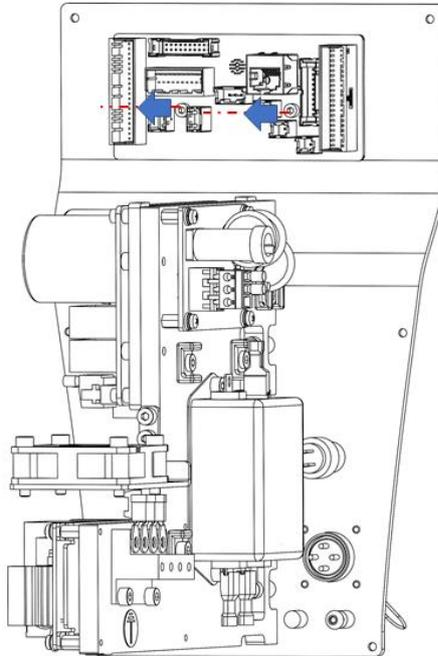

Figure 5-7 Removal of IO-free-distribution PCBA
Step 3 Use 2.5 mm Allen wrench to loosen the fastening screws on the IO-free-distribution PCBA and remove them. The position of the screws is shown in Figure 5-7.